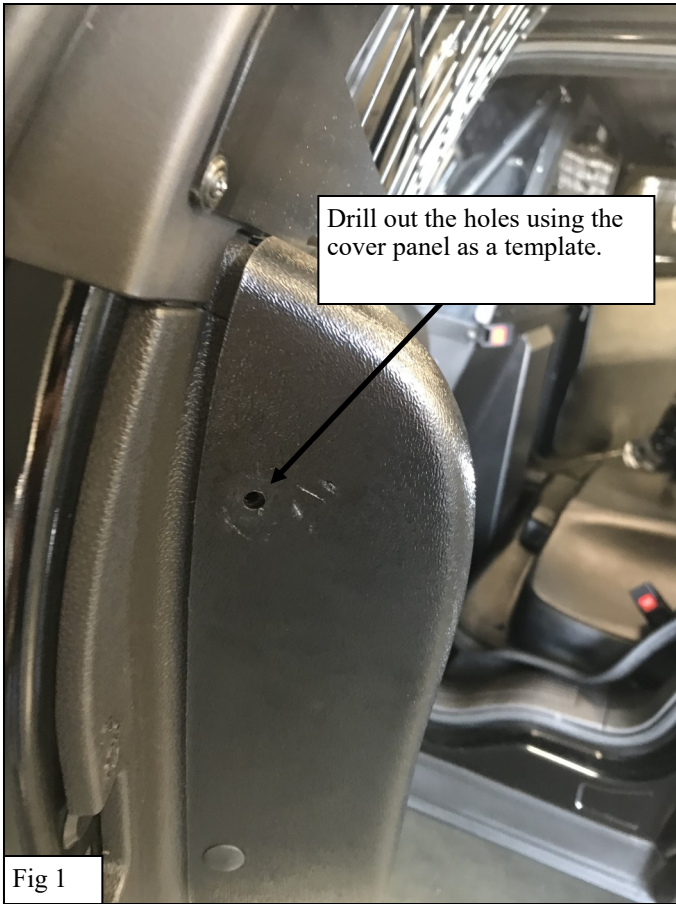

Fig 1
4. Using a 1/4" drill bit, drill out the marked holes. *Note: Do not drill through more than an inch to avoid damaging internal components in the door.* See **Figure 1**.